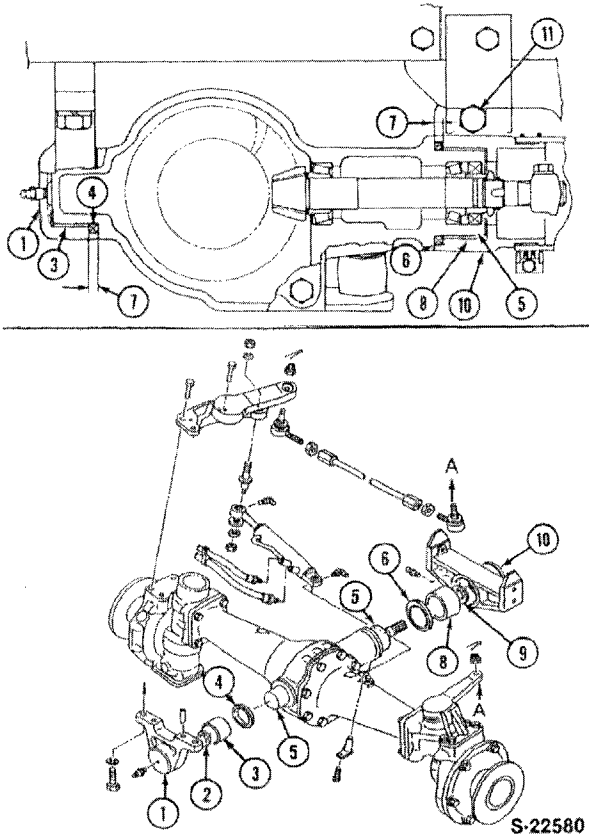

Figure 24
2. Check the clearance between the axle pivot bushings and differential case trunnions, Figure 24.
NOTE: When bushings are replaced, install new bushings using a suitable driver and recess the bushings to allow for the O-Rings and seals as shown, Figure 24.
4. If not checked previously, assemble the differential housing to the support and check the axle pivot end play. Use a dial indicator to measure the end play clearance. If end play clearance is excessive, loosen the mounting bolts (11), Figure 24, and slide the rear bearing holder forward to obtain the proper clearance. Tighten the retaining bolts to the specified torque.